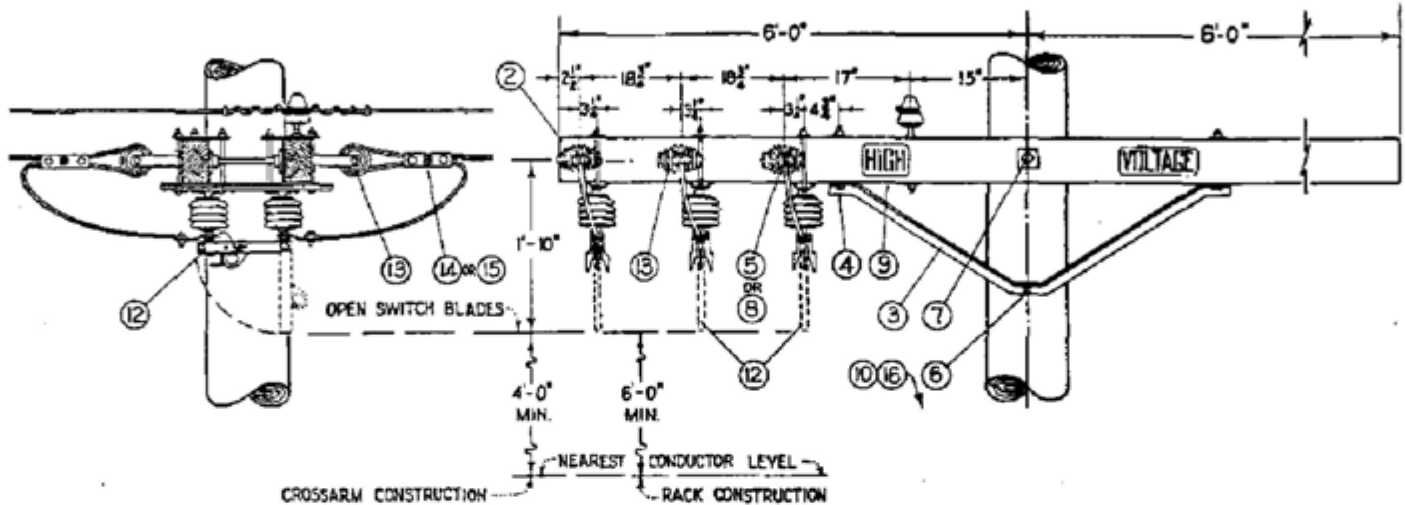

FIGURE 2
A. FOR ARM-END CONSTRUCTION, REDRILL CROSSARMS IN FIELD AS SPECIFIED BY FIGURE 2